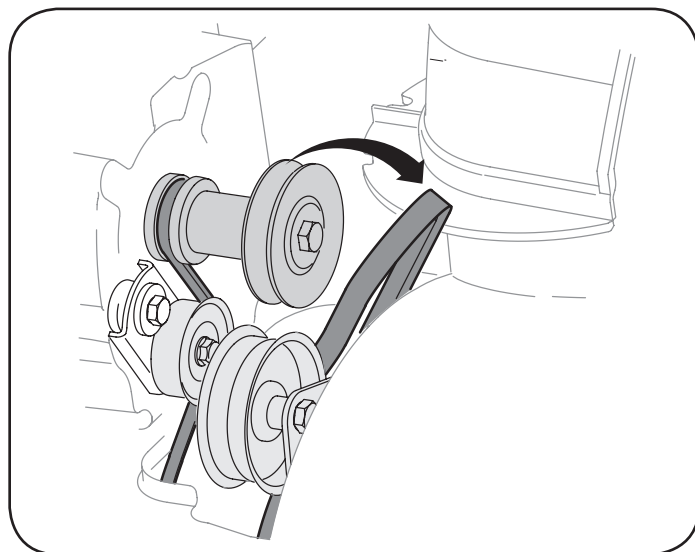

Figure 26
3. Loosen and remove the two bolts and flat washers securing the belt guide. See Figure 26. Remove belt guide.
4. Roll the auger belt off the engine pulley. See Figure 26.